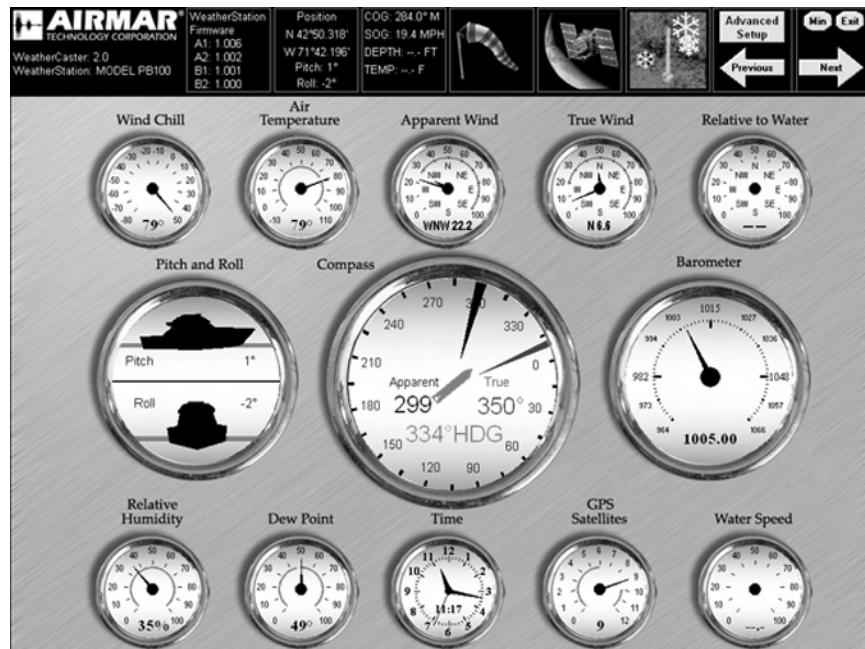

Figure 43. Analog Gauge screen
- Analog Gauge Screen—This screen displays the data being sent from the WeatherStation on gauges in both analog and digital format (see Figure 43). After setup is completed, this screen will display automatically when WeatherCaster is launched.
After WeatherCaster has been setup, the next time you start the application an Analog Gauge Screen will appear (see Figure 43). The gauges display the data being sent from the WeatherStation. Each gauge displays data in both analog and digital formats.